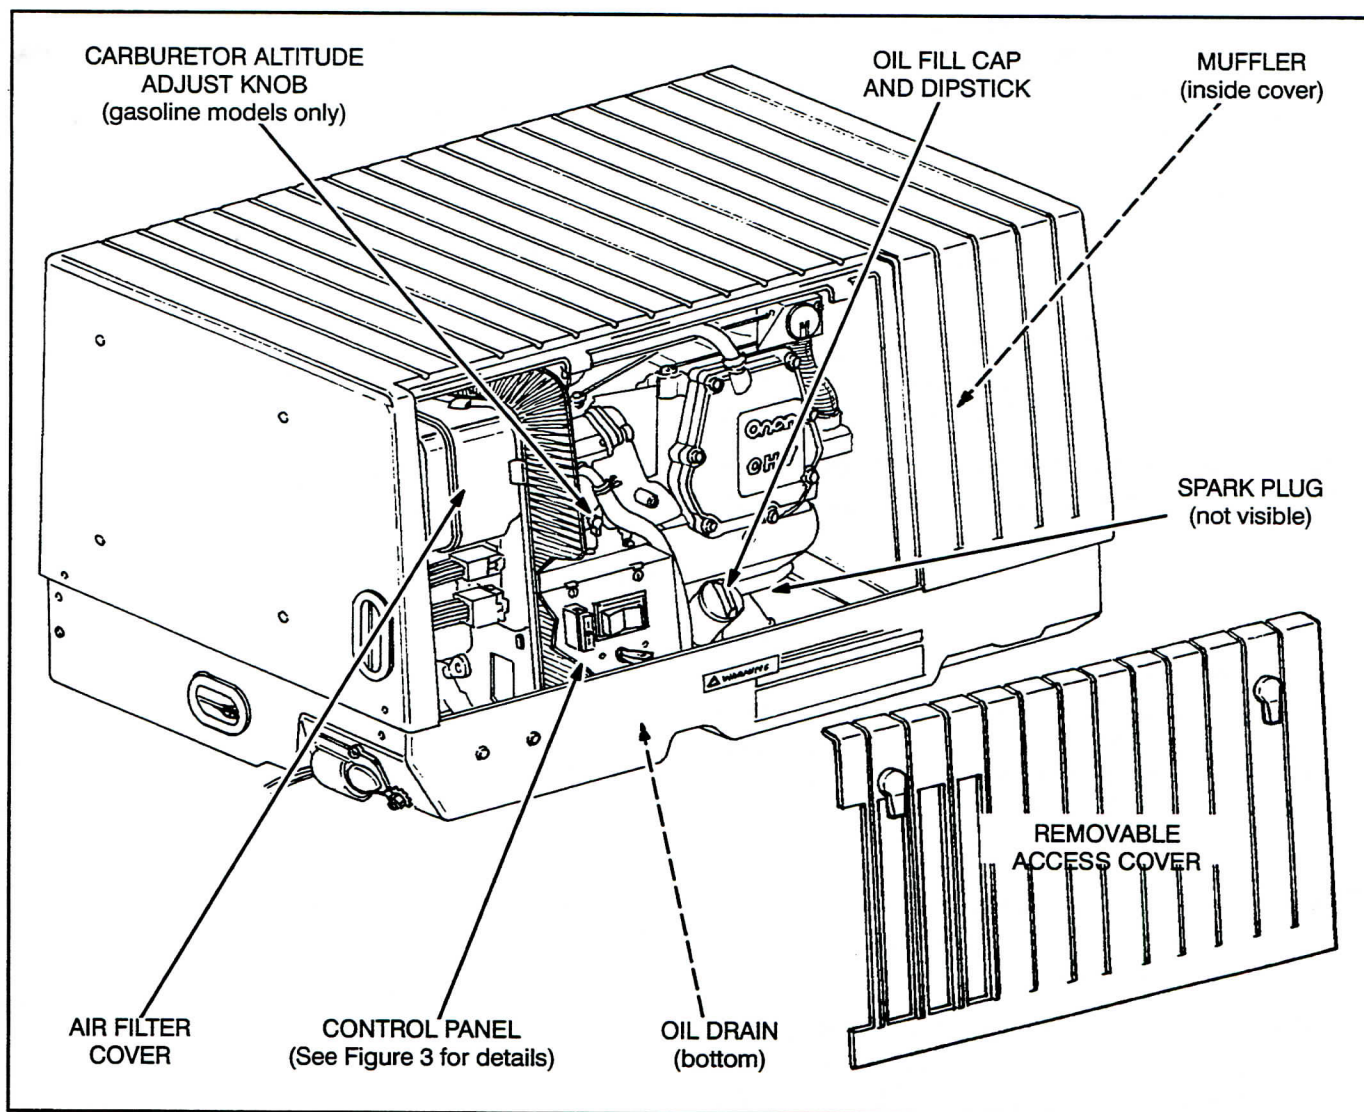
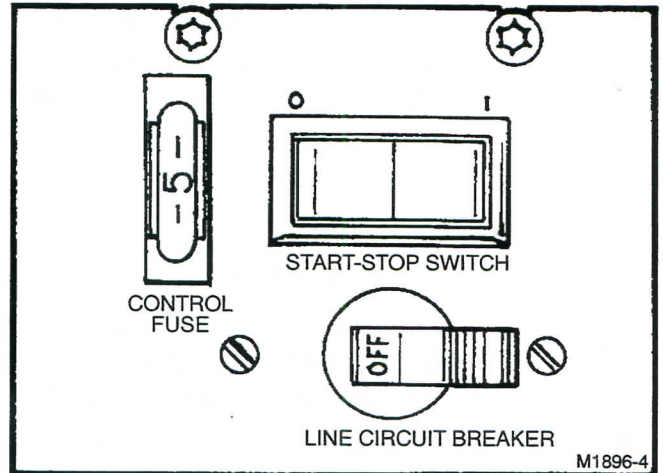

FIGURE 2. COMPONENT LOCATIONS
FIGURE 3. GENSET CONTROL PANEL
The control panel and the components requiring attention during periodic maintenance (see *Periodic Maintenance*) are located behind a removable access cover. See Figure 2.
The genset control panel (Figure 3) is located behind the access cover on the genset (Figure 2). It has the following features:
2. Push and hold the genset or remote START switch (Figures 3 and 4) until the genset starts. (The remote START switch inside the vehicle should have a lamp which lights to indicate that the genset has started and is running.)